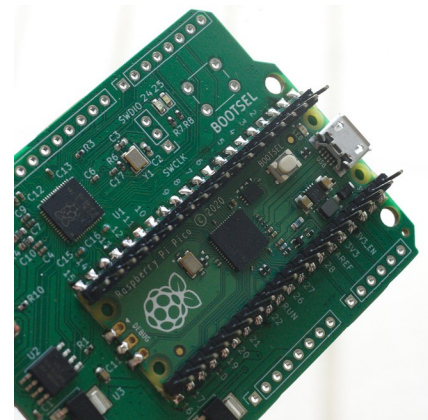

Figure 6: Solder SMD pads.
3. Solder the SMD pads(figure 6) on the front side of the PCB to connect the rest of the GPIOs on the Pico to the PDC. This is required to make the connection between the target Pico and the pin headers, since the pin headers are soldered to the PDC.